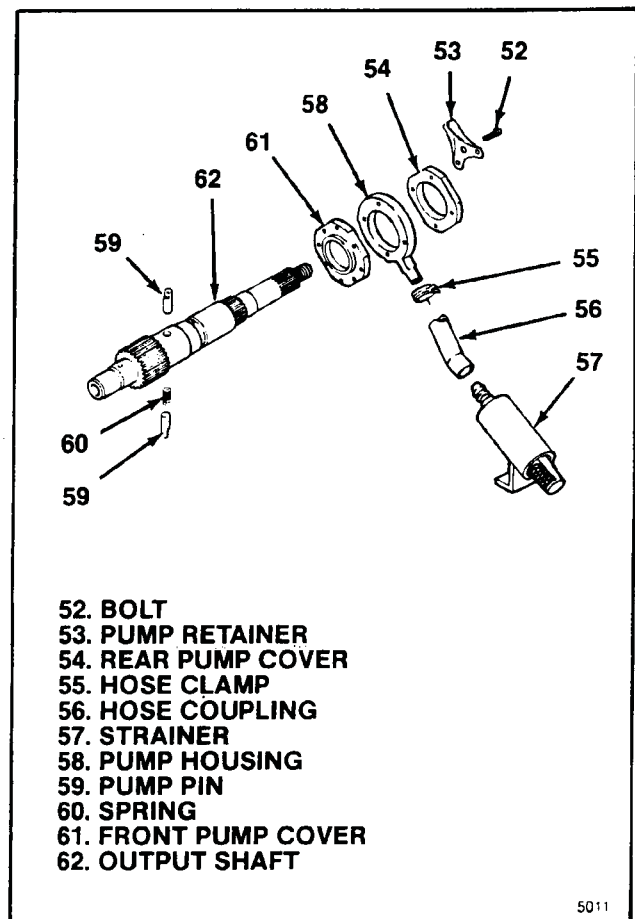

Figure 5-13. Pump Parts
**5-11. INSTALLING OIL PUMP.** Be sure to thoroughly lubricate pump parts as they are assembled but keep oil out of tapped holes in pump front cover. To assembly as completed thus far (62 through 121) assemble parts as follows (see figure 5-13):
a. Locate pump front cover (61). Front pump cover has tapped holes. Position front cover so that word TOP faces down and turned so that it will be at top of transfer case when installed in vehicle. Install front pump cover (61) over output shaft (62) in this position.
b. Install two pump pins (59) with spring (60) between them in output shaft (62). Flat surface on both pins must point out and face up. Center pins and spring in output shaft.
c. Push hose coupling (56) onto barb on strainer (57) and install L shaped foot on filter in slot in transfer case. Hose coupling must point in direction of pump assembly.
d. Install pump housing (58) so that word REAR marked on it is up and hose barb points toward hose coupling (56) and strainer (57). Lower pump housing over upper output shaft, moving pump pins (59) inward and compressing spring (60) so that both pins are contained inside pump housing.
e. Slip hose clamp (55) over free end of hose coupling (56) and push onto hose barb on pump housing (58). Secure hose clamp over hose coupling on hose barb.
f. Position pump rear cover (54) over assembly with words TOP REAR facing up and located to be at top of transfer case when installed. Position pump retainer (53) on cover so that tab on retainer is in notch in transfer case. Clean threads on four bolts (52) and apply Loctite 222. Align pump holes and install bolts. Torque bolts to 2.9-6.3 lb-ft (4.0-8.5 Nm) while turning upper output shaft (43) by hand to insure that pump pins (59) move freely.